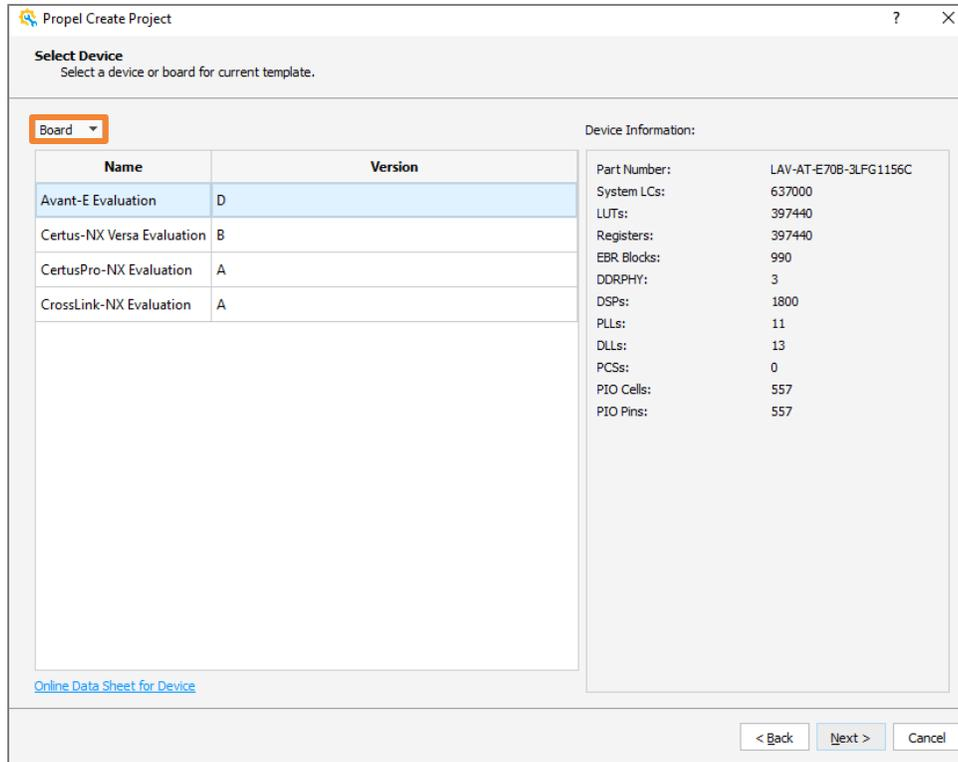
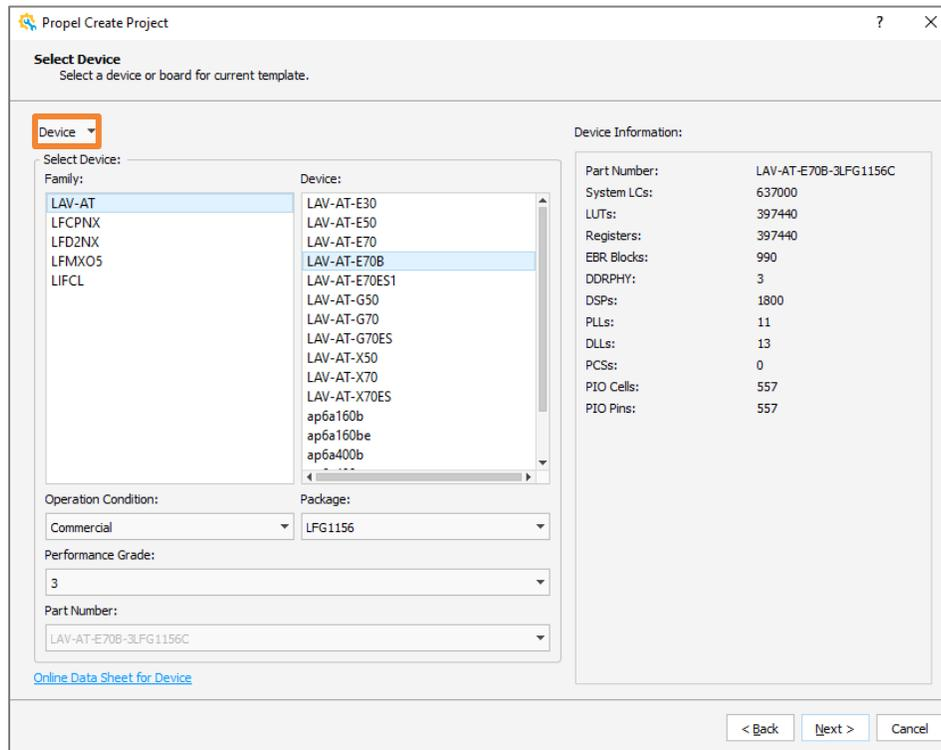

Figure 2.19. Scalable Wizard – Choose Board
Figure 2.20. Scalable Wizard – Choose Device
3. In Board/Device Page, choose Board (Figure 2.19) or Device (Figure 2.20) supported in this template, and then click **Next:**